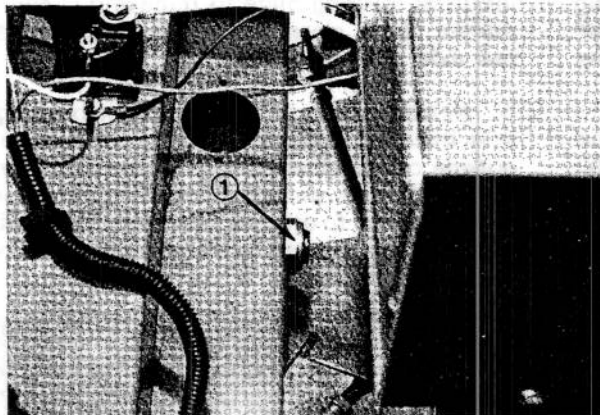

Figure 51
2. Raise engine hood. Remove large locknut from end of rear axle pin (Fig. 51).
10. Install large locknut on end of axle pin (Fig. 51). Tighten locknut until all forward and backward movement of the axle is eliminated. However, the axle must still pivot freely.
2. Raise hood and remove large locknut from end of rear axle pin (Fig. 51).
13. Install large locknut on end of axle pin (Fig. 51). Tighten locknut until all forward and backward movement of the axle is eliminated. However, the axle must still pivot freely.